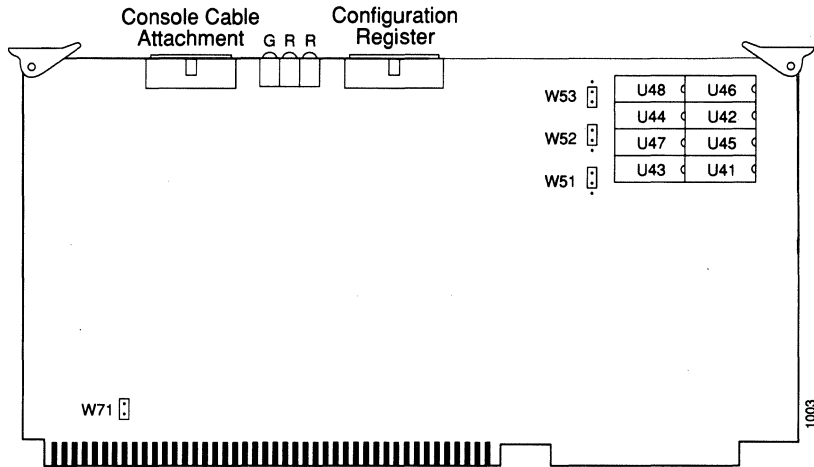

Figure 5-13 CSC/2 Processor Card — Component Side View
Figure 5-13 is a line drawing of the CSC/2 processor card viewed from the component side. Jumper settings can be found at the end of this section. Immediately following the card installation steps are the EPROM replacement procedures for the CSC/2 processor card.
- Step 7:** Connect the console cable (cable ends are keyed) to the console cable attachment port on the CSC/2 card (see Figure 5-13).
Refer to Figure 5-13 for placement of the EPROMs on the CSC/2 processor card.
Each EPROM has a notch cut in one end to indicate its proper orientation. Each EPROM must be placed so that its notch is aligned with the notch in the EPROM socket, as shown in Figure 5-13. Do not rely on the orientation of the EPROM labels. See step 4, below, for specific installation instructions.
- Step 5:** When all EPROMs have been replaced, check for proper jumper settings. The factory default settings shown in Figure 5-13 are correct for both 512 kilobit and one megabit EPROM configurations.